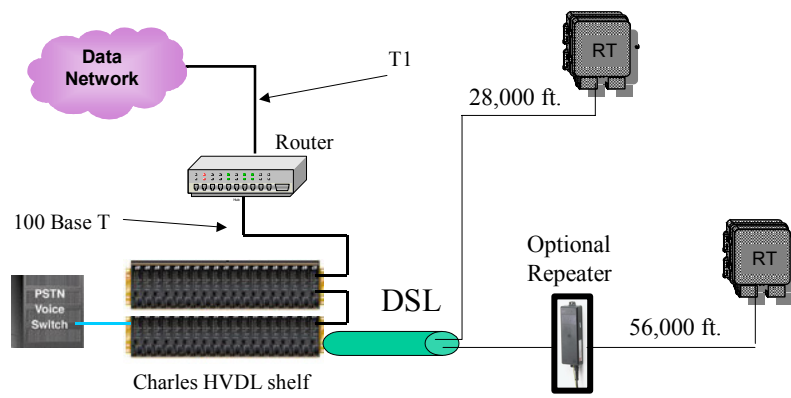

Figure 2 – Typical HVDL Configuration
A basic HVDL system consists of at least 2 components – a Central Office Terminal (COT), and a Remote Terminal (RT). The COT, as its name implies, is typically located in the Central Office. There are 2 CO shelves available for HVDL COTs – a 19" shelf, and a 23" wide shelf. Each shelf is 3RU (5.25") in height. The RT is located at the customer premise. If needed, the HVDL system can also be equipped with multiple repeaters to extend its reach. (Figure 2 only shows 1 repeater, although HVDL systems will support up to 3 repeaters if needed.)